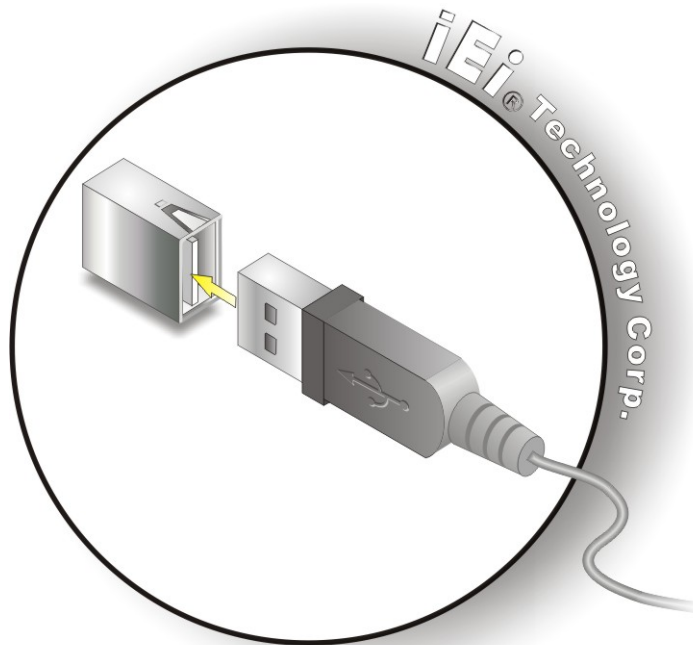

Figure 4-18: USB Device Connection
Step 2: Align the connectors. Align the USB device connector with one of the connectors on the WSB-G41A. See **Figure 4-18**.